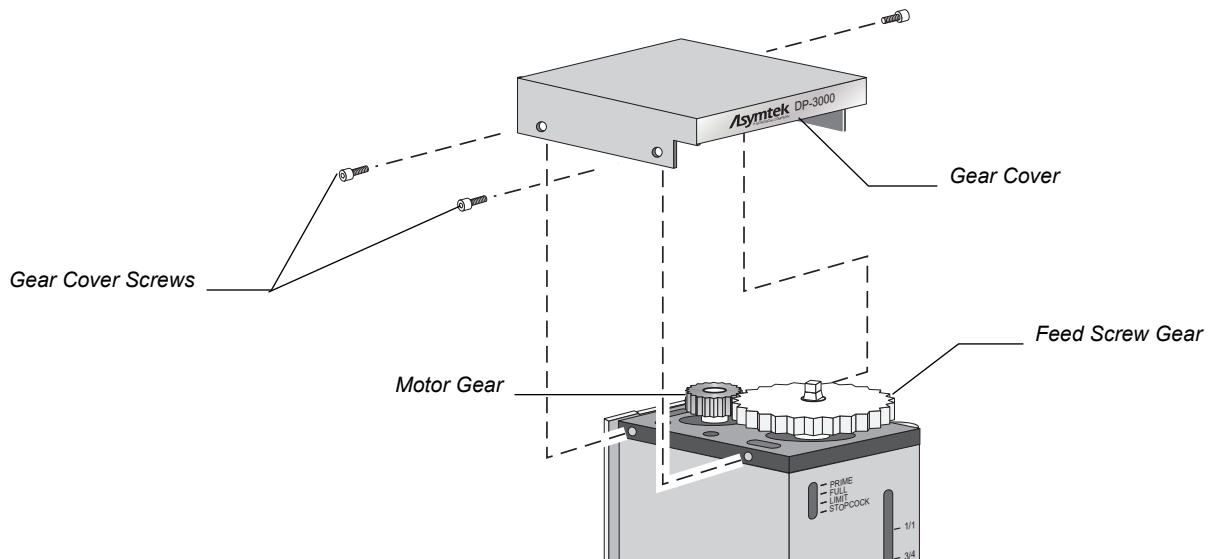
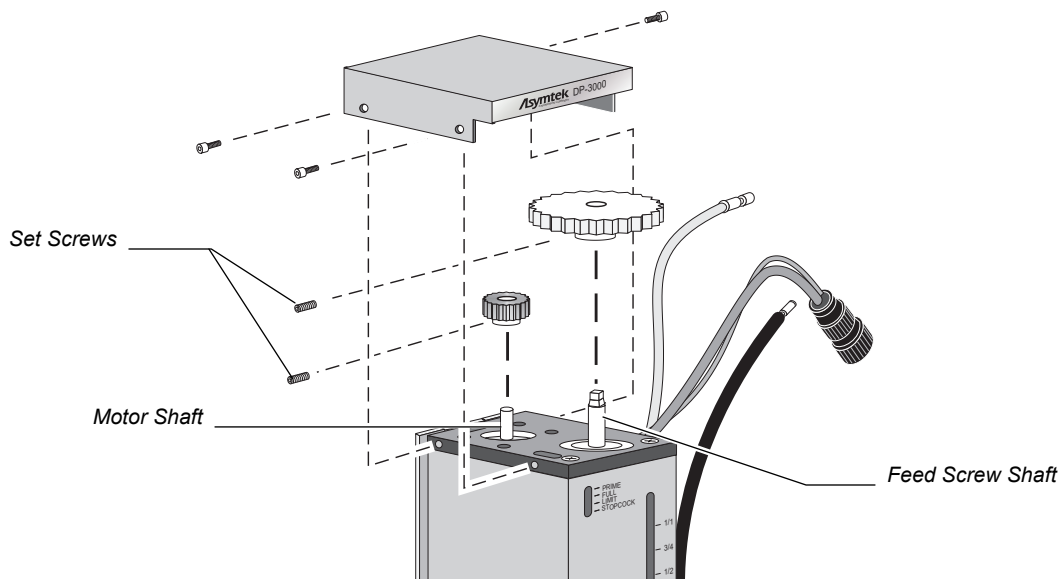

Figure 2-6 Removing the Gear Cover
Figure 2-7 Removing the Gears
Refer to Figure 2-6 and Figure 2-7 to locate parts.
5. Remove the gear cover. See Figure 2-6.
6. Using the 1/16-inch hex key, loosen the set screws on the gears. See Figure 2-7.